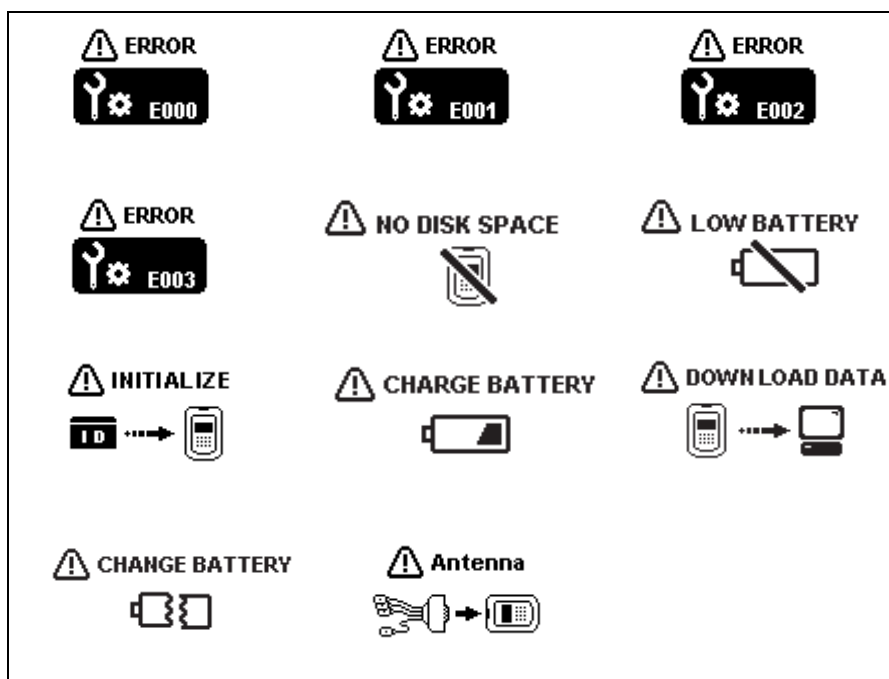

Figure 5.36
- If any of the icons shown in Figure 5.36 are displayed, refer to "Recorder unit error messages" on page 235, to evaluate and attempt to correct the problem